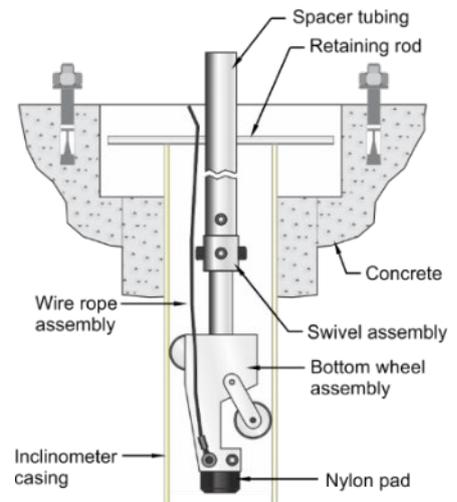

Figure 3-1 Concrete platform for protection
- Make a concrete platform at top (refer to figure 3-1) such that mouth of inclinometer casing is around 25 mm below the top of the concrete platform. Inside diameter of the cavity around the top of the casing in the platform should be around 150 mm.